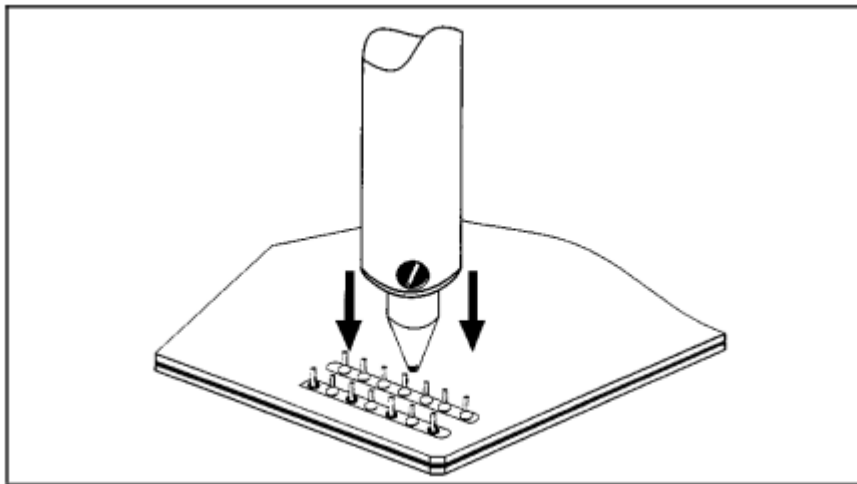

Figure 2 Position Tip
- e) Tin tip with solder. (See Figure 2.)